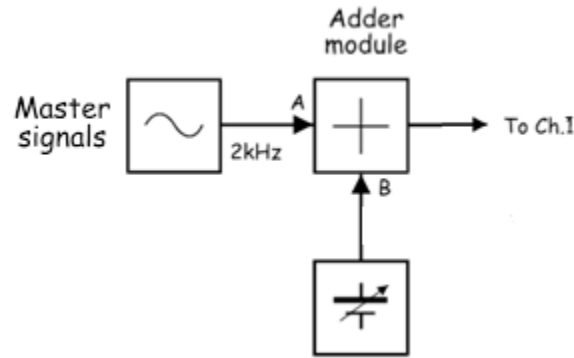

**Figure 1: Amplitude adjustment for Message signal**
2. We would like the amplitude of the message signal be **1V**. To adjust it, you may use the amplifier available in the ADDER Module Block. Make the following connections (Fig. 1). Adjust (using the screw driver provided) the gain associated with input **A** of the adder module so as to have a waveform on DSO with 2V peak to peak amplitude. Measure it and tabulate in Table 1.